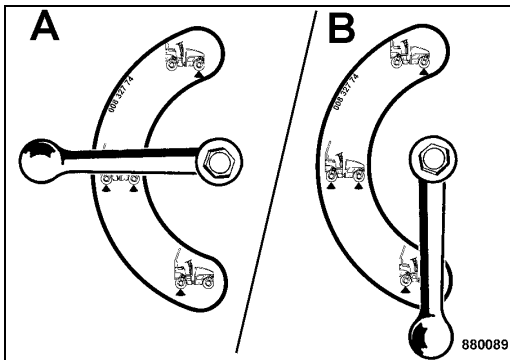

Fig. 98
- Turn the vibration ball valve down (B) (Fig. 98) for chip spreading without vibration.
- Turn the vibration ball valve to horizontal position (A) for chip spreading with vibration of front drum.
With the ball valve in horizontal position (A) (Fig. 98) follow the instructions for work with vibration, see chapter "Switching vibration on and off".